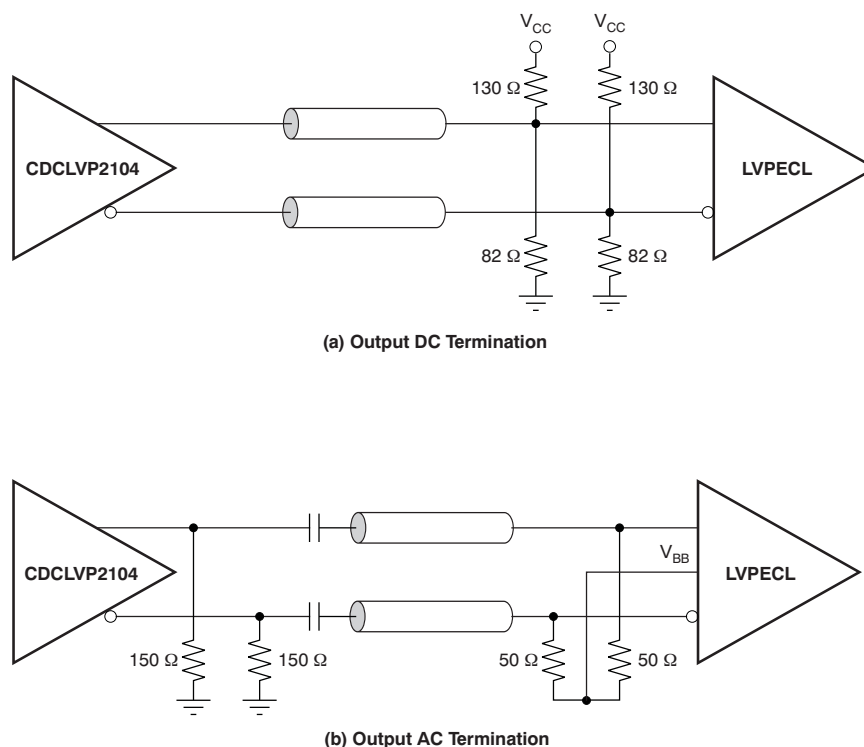

Figure 13. LVPECL Output DC and AC Termination for $V_{CC} = 3.3\text{ V}$
The CDCLVP2104 is an open emitter for LVPECL outputs. Therefore, proper biasing and termination are required to ensure correct operation of the device and to minimize signal integrity. The proper termination for LVPECL outputs is a $50\ \Omega$ to $(V_{CC} - 2)\text{ V}$, but this direct-coupled (DC) voltage is not readily available on PCB. Therefore, a Thevenin equivalent circuit is worked out for the LVPECL termination in both DC- and AC-coupled configurations. These configurations are shown in Figure 12 (a and b) for $V_{CC} = 2.5\text{ V}$ and Figure 13 (a and b) for $V_{CC} = 3.3\text{ V}$, respectively. TI recommends placing all resistive components close to either the driver end or the receiver end. If the supply voltage for the driver and receiver is different, AC coupling is required.
The CDCLVP2104 is an open emitter for LVPECL outputs. Therefore, proper biasing and termination are required to ensure correct operation of the device and to minimize signal integrity. The proper termination for LVPECL outputs is a $50\ \Omega$ to $(V_{CC} - 2)\text{ V}$, but this DC voltage is not readily available on PCB. Therefore, a Thevenin equivalent circuit is worked out for the LVPECL termination in both direct-coupled (DC) and AC-coupled configurations. These configurations are shown in Figure 12 a and b for $V_{CC} = 2.5\text{ V}$ and Figure 13 a and b for $V_{CC} = 3.3\text{ V}$, respectively. TI recommends placing all resistive components close to either the driver end or the receiver end. If the supply voltage for the driver and receiver is different, AC coupling is required.